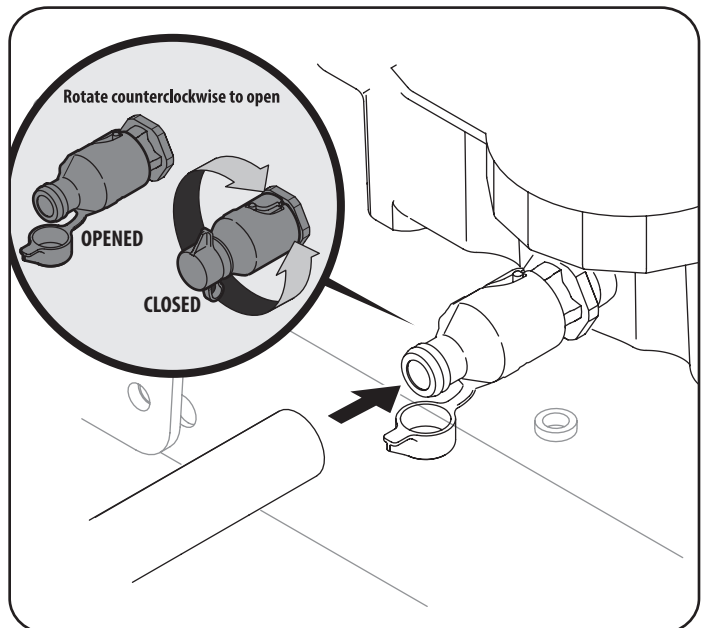

Figure 5
3. Open the protective cap on the end of the oil drain valve to expose the drain port. See inset of Figure 5.
- Slightly push in on the oil drain valve and rotate counter-clockwise to open and allow the flow of oil. See Figure 5.